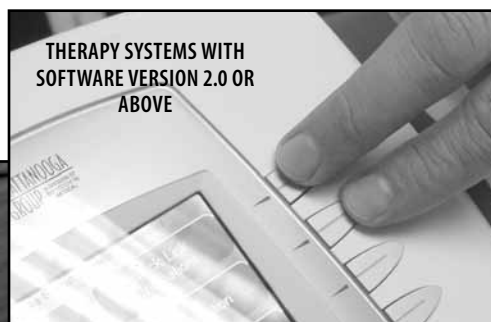

FIGURE 8.1
1. Enter the Technical Service Screen of the Therapy System by pressing the Stop, Pause, and Start Buttons simultaneously. See Figure 8.1.
To access the Technical Service Screen of Therapy Systems with Version 2.0 or above software, simultaneously press the two buttons located at the upper right of the screen. See inset at Figure 8.1.